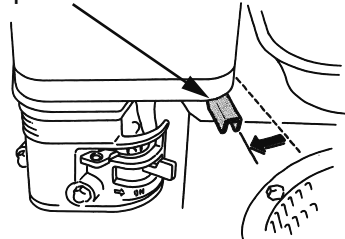

Fig. 15
3. Open the speed control lever half. (Fig.15)
1. If you open the speed control lever at a stroke, this machine starts vibration and moves forward. If you open it slowly, the clutch may slip, so open the speed control lever at a stroke without hesitation. (Refer to Fig.15 on page 13.)